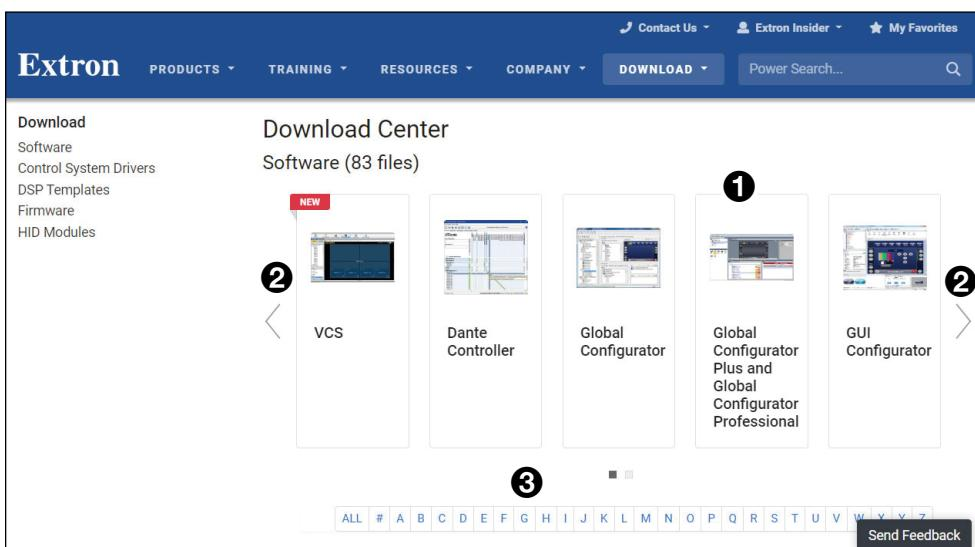

Figure 16. Software Download Center
3. You may see the product immediately, for example Global Configurator Plus and Professional (see figure 16, ①) Use the left and right arrows (②) to scroll through all the highlighted products. If the software is not shown, click the initial letter of the product in the alphabet menu (③).